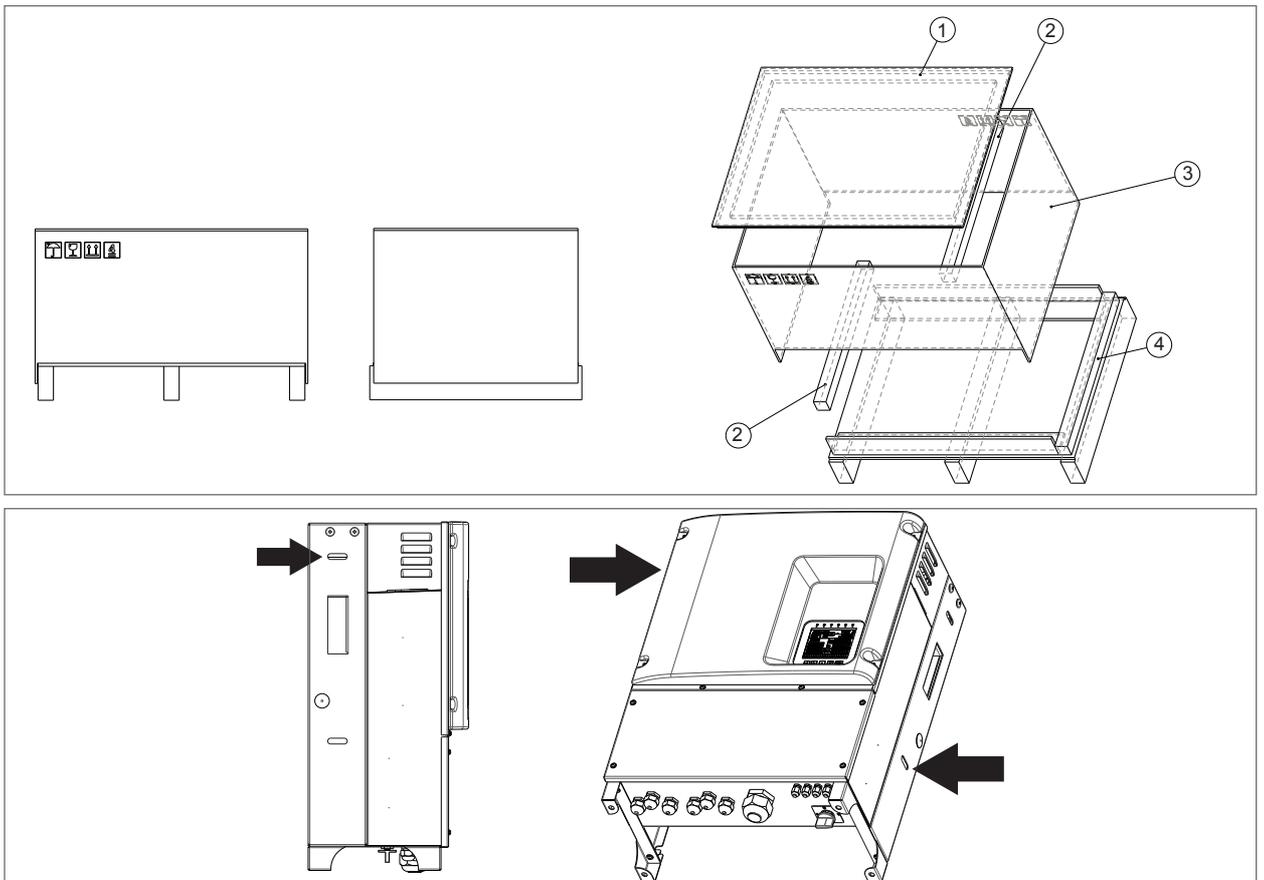
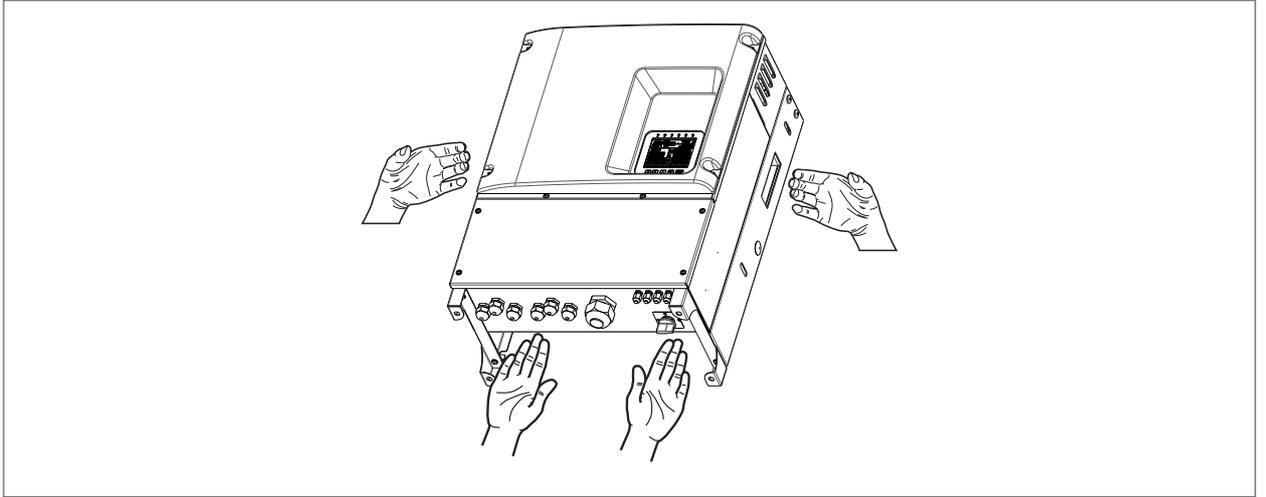

Figure 2 : wooden crate and slots for extraction of the inverter from crate
Figure 5 : Manual handling
- using chain hoists or crane, attach two tie rods in the appropriate slots on the sides of the inverter, see Figure 2 (slots dimensions: 11,5x 39 mm. **Attention:** use these slots only to remove the inverter from the crate. See chapter 3.4 for information on how to handle the equipment: 3.4:
- manually by using the appropriate handles, see Figure 5. In this case, also remove the side panels of the crate (3). See figure 2.